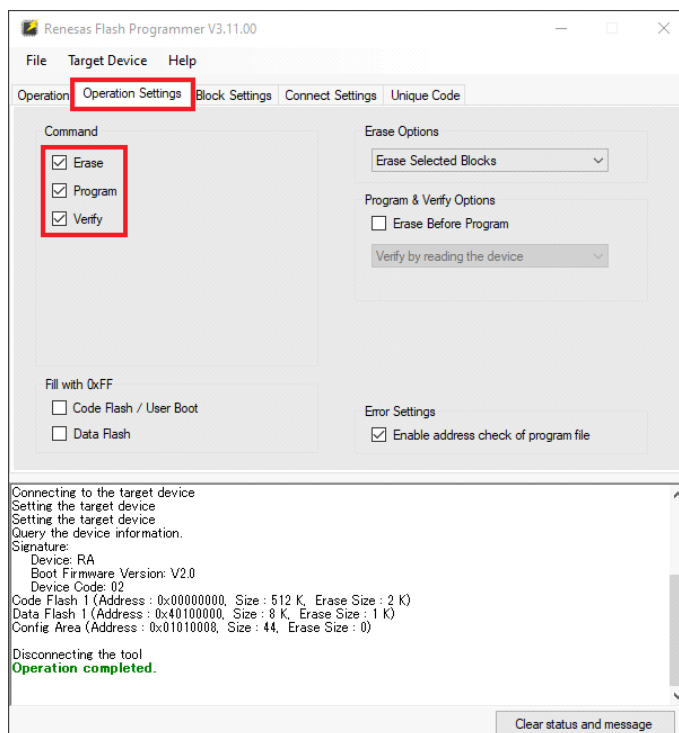

Figure 6. Operation Settings in Renesas Flash Programmer
5. In the main window, select the **Operation Settings** tab and verify that in **Command** section that **Erase**, **Program**, and **Verify** are selected (Figure 6).